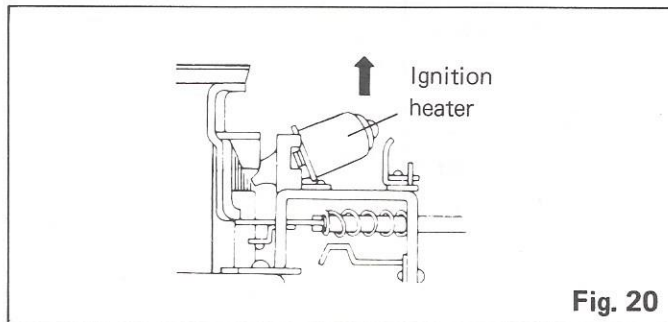

Fig. 20
4. Remove the old ignition heater. (Fig. 20)